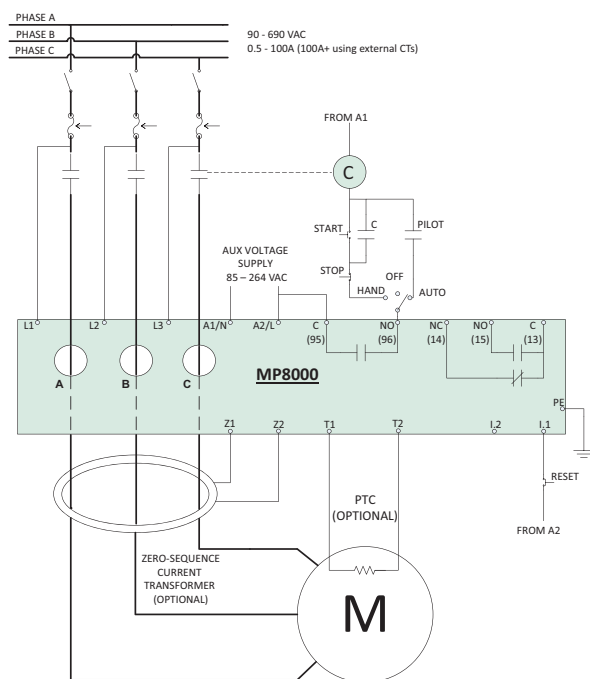

Figure 10
3. Provide control power to power the MP8000 with 85-264 V ac and connect to terminals A1 and A2 per the diagrams on page 2. (See Figures 10 and 11)